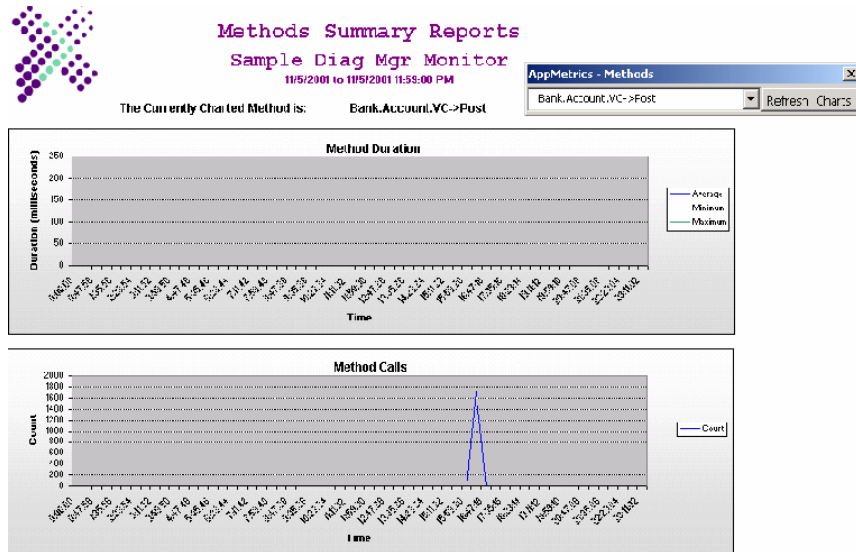

Figure 21
12. The last report to view in our Diagnostics Monitor is the **Methods Report** (see Figure 21).